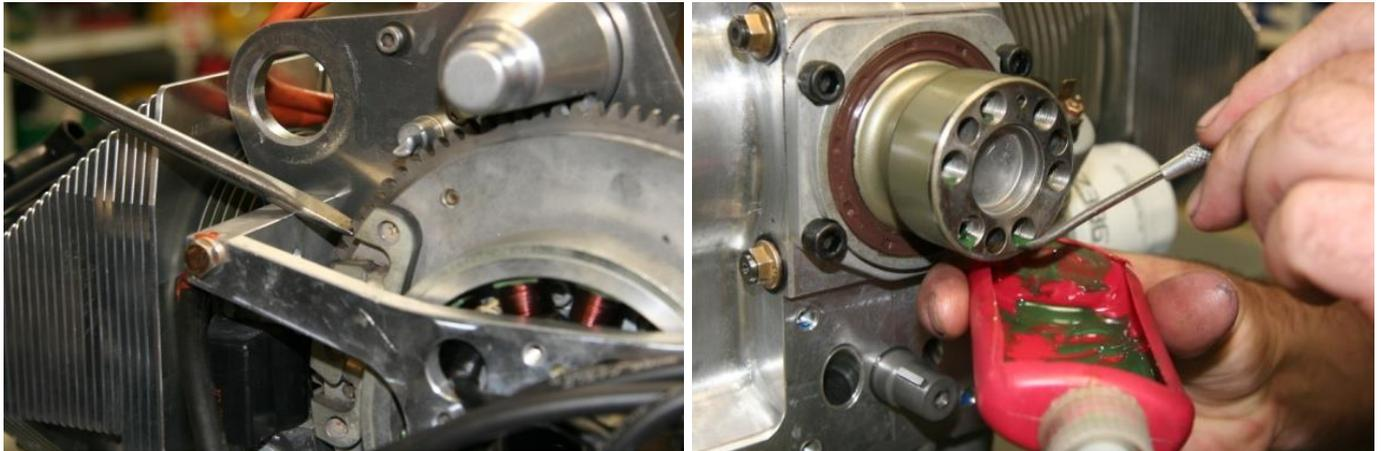

Figure 203 – Preparing To Fit Propeller Flange
- Fill the seal with high temperature grease or commercial seal lube and fit the housing to the engine as shown in Figure 203 (right). Note the orientation of the housing. Use 4 off 5/16" cap screws with Loctite 243 on the threads. Note that earlier engines used 1/4" screws. Either type assembly is acceptable.
Apply the same amount (approximately the size of a large match head) of Loctite 620 to the threads in the crankshaft. Apply the compound as shown in Figure 203: Use a scribe or small probe to apply the Loctite to the threads inside the crankshaft. Apply in the range 1 – 6mm from the front face of the crank.